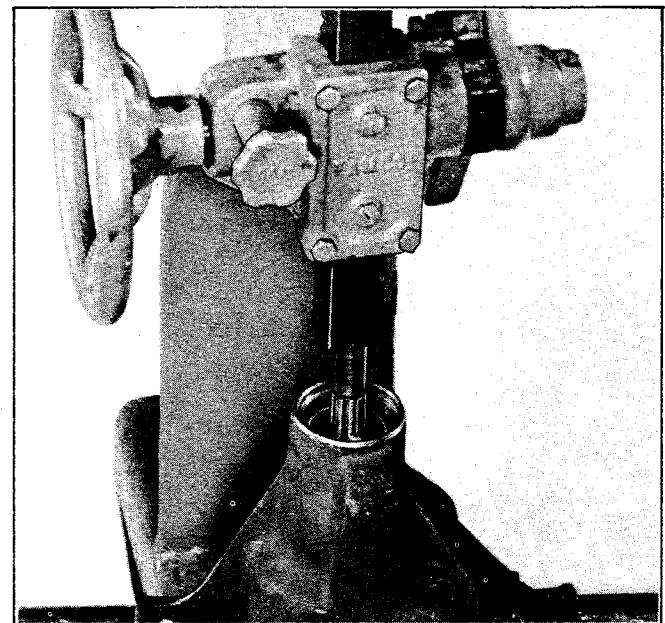

Figure 2-8. Pressing Out Shaft
13. If used, bend tab on retainer (21A) flat. Remove nut (20) and washer (21) or retainer (21A) from drive pinion shaft (22) and remove end yoke (23) or coupling (23A) with claw puller.
14. Place housing assembly on arbor press similar to one shown in Figure 2-8. Press out shaft (22). Drive pinion shaft rear bearing cone (24) will remain on shaft. Remove bearing spacer sleeve (25) and adjusting shims (26), placing these parts with pinion shaft.